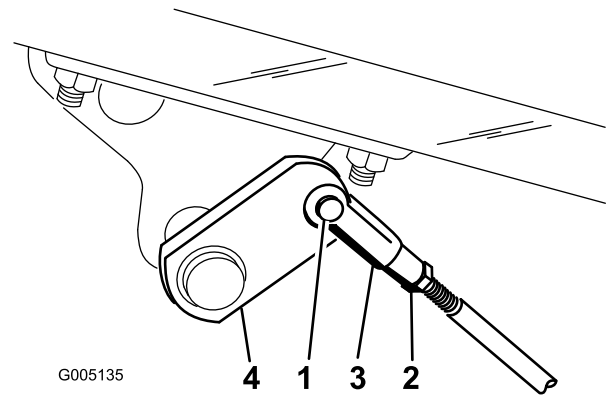

Figure 54
2. If the brakes do not lock equally, disconnect the brake rods by removing the cotter pin and clevis pin (Figure 54).
3. Loosen the jam nut and adjust the clevis accordingly (Figure 54).
4. Assemble the clevis to the brake shaft (Figure 54).